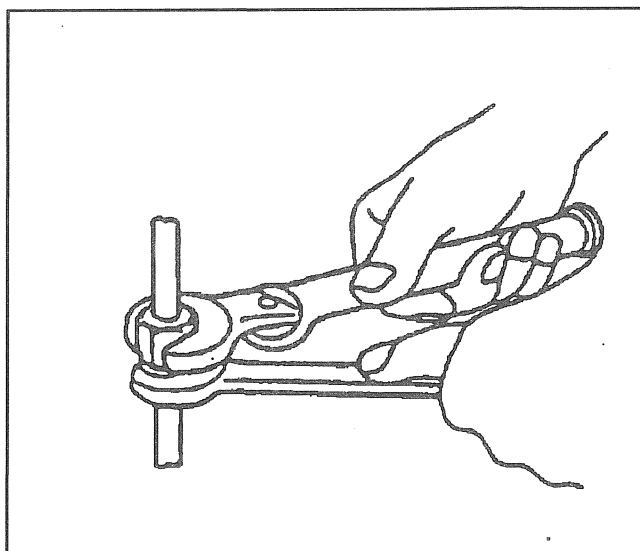

Figure 14—Using the Two-Wrench Method
- It is important to use the proper wrenches when making connections on O-ring seal fittings. The use of improper wrenches may damage the connection. The opposing fitting should always be backed up with a wrench to prevent distortion of connecting lines or components (Figures 14 and 15). When connecting the flexible hose connections, it is important that the swaged fitting and the flare nut, as well as the coupling to which it is attached, be held at the same time using three different wrenches to prevent turning the fitting and damaging the seat.